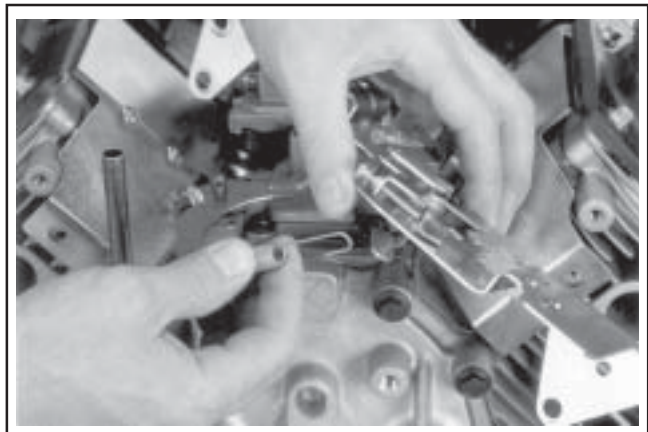

Figure 9-23. Disconnecting Spring from Bracket.
2. Mark the spring hole locations and disconnect the spring from the governor lever. See Figure 9-23.